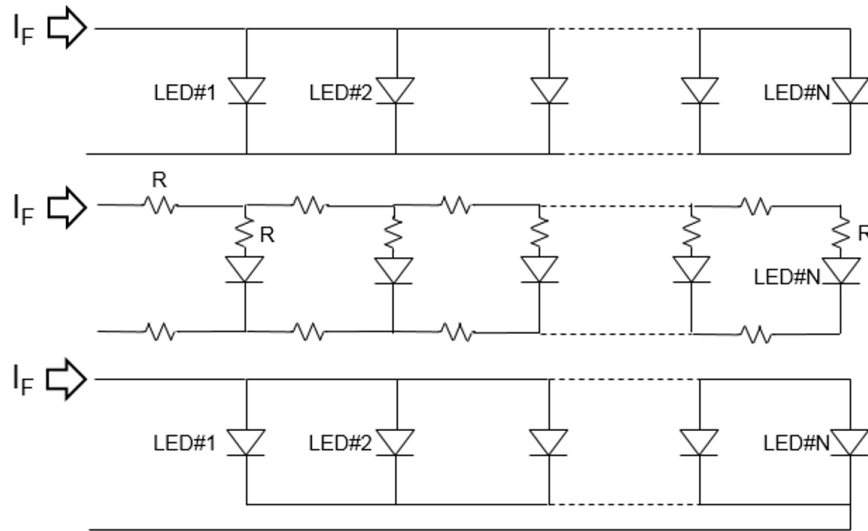

Figure 6. Effect of trace resistance and routing pattern on LED light output performance as described.
Another factor which may impact the PCB thermal resistance is the size of the top copper layer around the LUXEON HL4X thermal pad. A direct metal contact of the metal substrate to the LUXEON HL4X thermal pad without any epoxy dielectric layer in between can further reduce the MCPCB thermal resistance significantly as shown on the left in Figure 6. This type of board provides the best thermal resistance. However, the Hi-Pot test between the metal substrate and the LUXEON HL4X electrode pads need to be considered.
- Filled and capped thermal vias as shown in Figure 6 (this gives better thermal performance than open via design)
I_F current through LED#N to maintain equal total trace resistance across all LED electrical paths as shown in the bottom drawing of Figure 6.